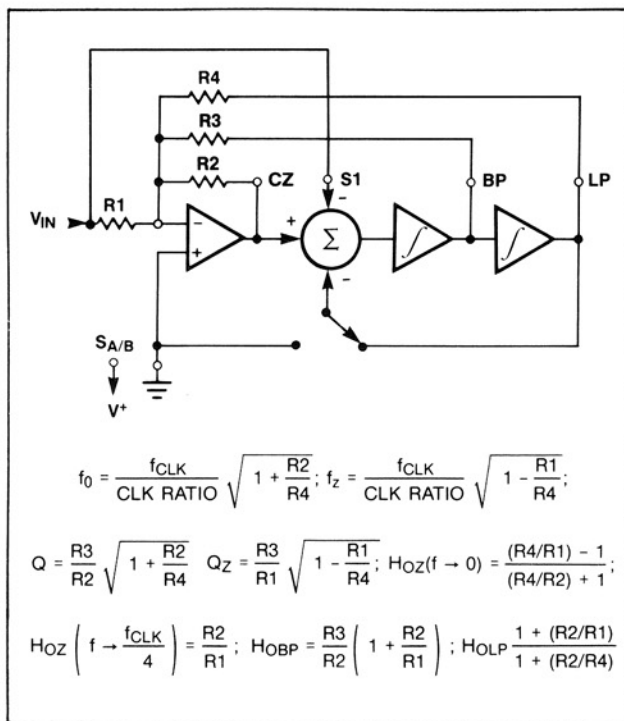

Figure 17. Mode 5: 2nd-Order Filter Providing Numerator Complex Zeros, Bandpass, Lowpass
**MODE 5** (Figure 17) places the center frequency of the numerator complex zero pair ( $f_z$ ), at a different frequency from  $f_0$ . The magnitude response therefore has a notch at  $f_z$  which is proportional to the numerator's  $Q$ .